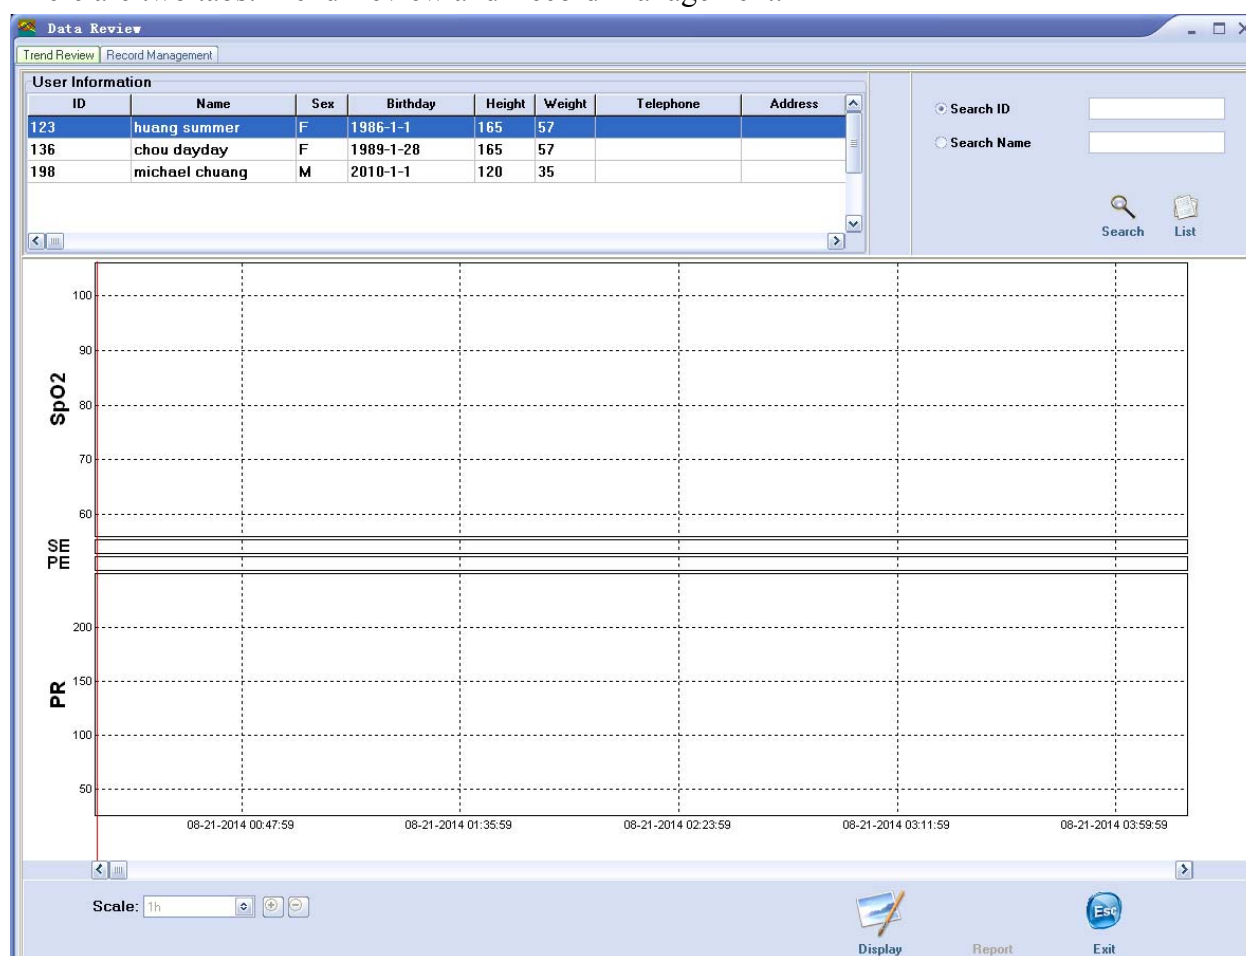

Figure 3-5
- On main menu window, select "Data Review" to enter into data review screen, as shown in Figure 3-5. There are two tabs: Trend Review and Record Management.